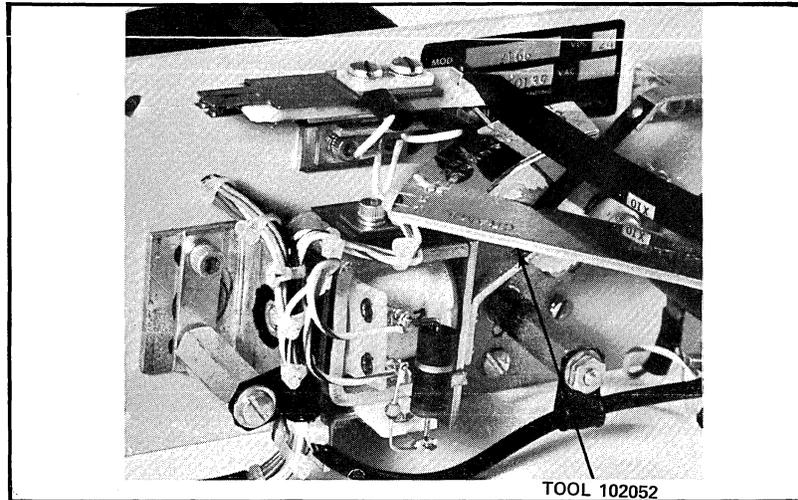

Figure 6-11 Armature Spring Tension Check
- (1) The armature spring tension is 420 grams. See Figure 6-11. This measurement is made at the tip of the armature extension and is measured at the point where the armature starts to move. Use 0 - 650 gram gauge (see Table 7-1).